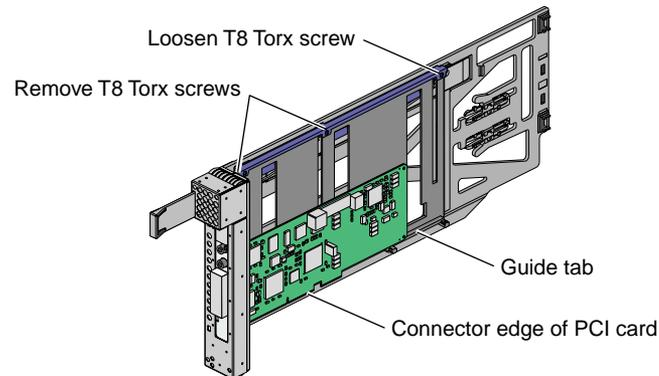

Figure 12 Mounting Half-height PCI Card into Carrier
- a. Remove the two screws (T8 Torx screws or Phillips screws) from the carrier guide bar, as shown in Figure 12.
- c. Place the half-height PCI card in the carrier so that the connector edge of the card rests against the lower guide tab of the carrier (see Figure 12).